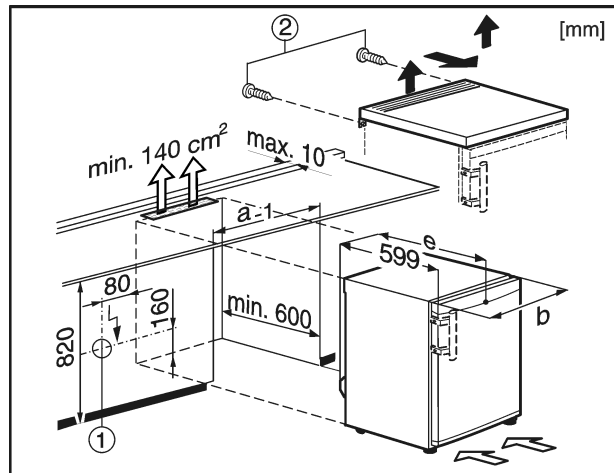

Fig. 7
With such installations, the plug Fig. 7 (1) must not be located behind the appliance and must be easily accessible.
- Remove the screws Fig. 7 (2) from the rear side.